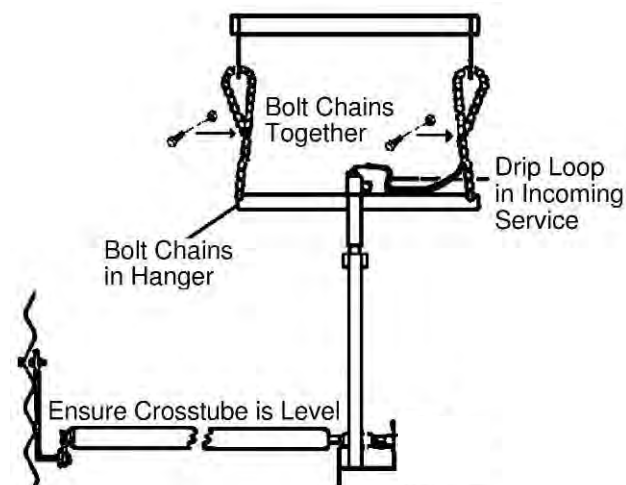

Fig. 32 - Leveling crosstube during installation
- 82 Bolt chains in hangers using keyhole slots, adjusting chains so crosstube is level. See Fig. 32.
- 83 Bolt chains together. See Fig. 32.